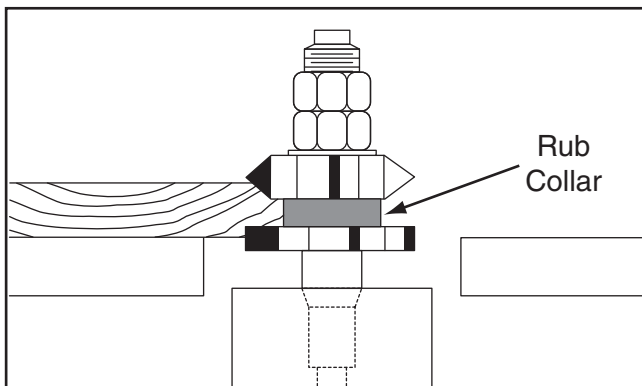

Figure 49. Using rub collar between cutters.
3. **Between two cutters:** Using a rub collar between two cutters has the distinct advantage of performing two cuts at once or eliminating the need to change cutters for two different operations (see **Figure 49**). Notice that part of the edge is left uncut. The uncut portion rides on the rub collar.